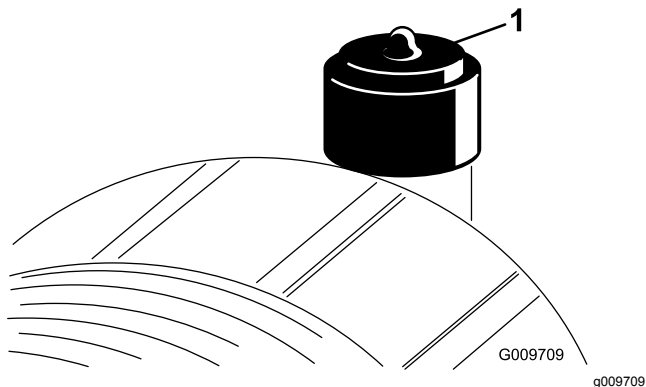

Figure 27
Service the air cleaner filter only when the service indicator (Figure 27) requires it. Changing the air filter before it is necessary only increases the chance of dirt entering the engine when the filter is removed.
6. Reset the indicator (Figure 27) if it shows red.